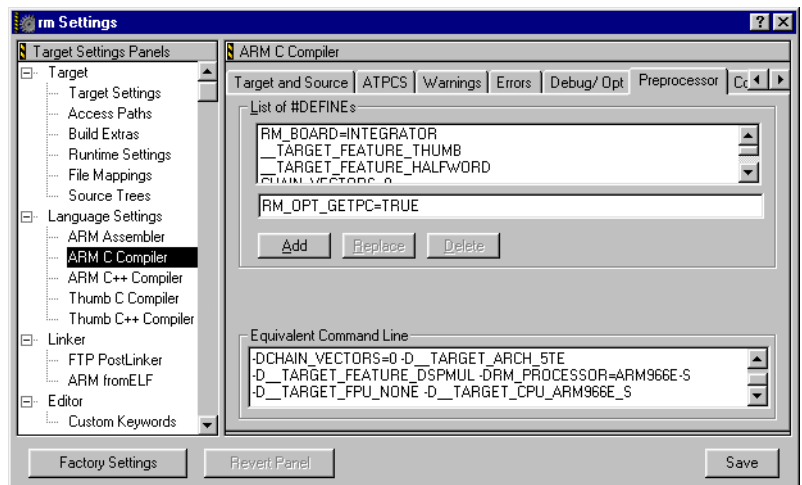

Figure 4-2 Setting build options for the C compiler
3. Select the Preprocessor tab in the ARM C Compiler window, as shown in Figure 4-2.